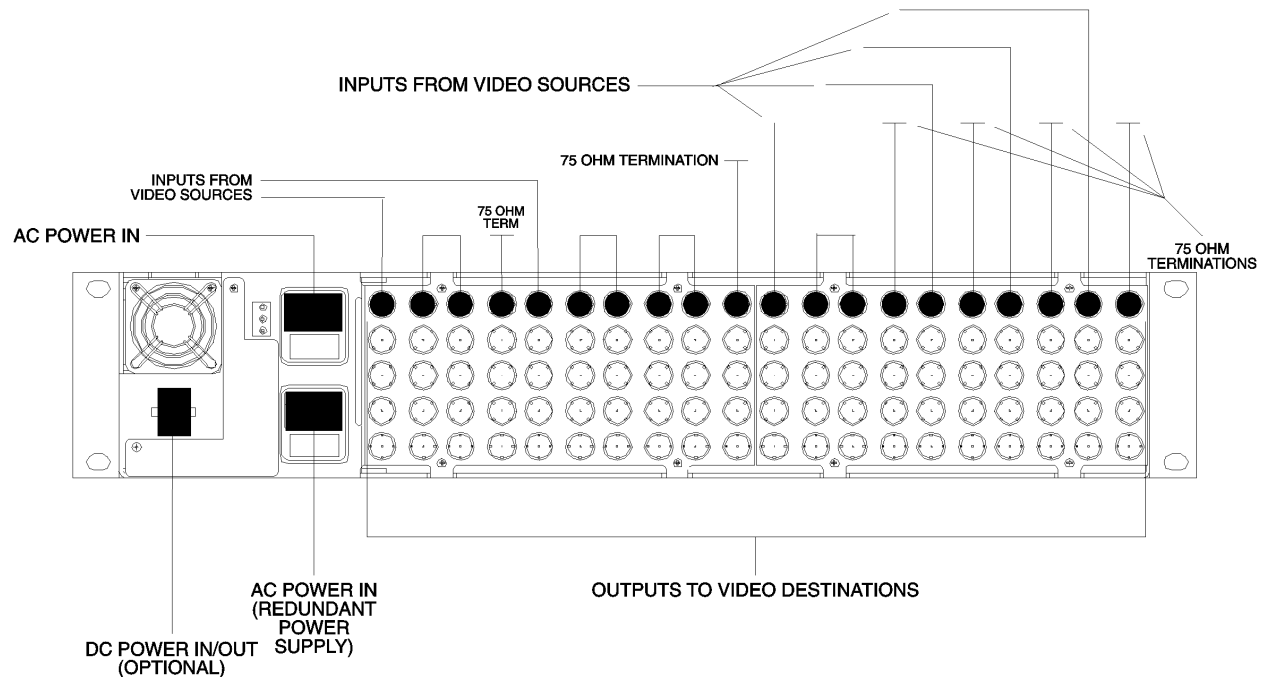

Figure 11. Connection Guide
Once the VDA-3100 Video Mainframes are installed in the equipment racks, system connections can be made. Use the following guide and the sample system connections illustration, Figure 11, to insure that the VDA-3100 Video Mainframe system connections are hooked up correctly.
1. Connect the video sources to the video inputs. The video inputs are loop through connectors and can be daisy chained as shown in Figure 11. The end of each video input daisy chain must be terminated with a 75 ohm termination.